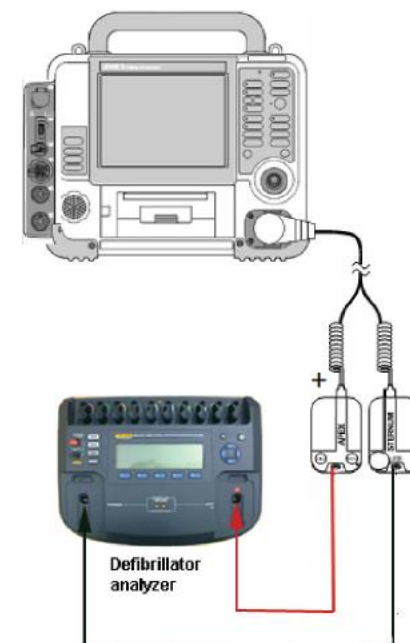

Figure 1.48—Standard paddles defibrillator charge time test setup
1. Place Standard Paddles onto the defibrillator analyzer as shown in Figure 1.48, using the appropriate adapters.